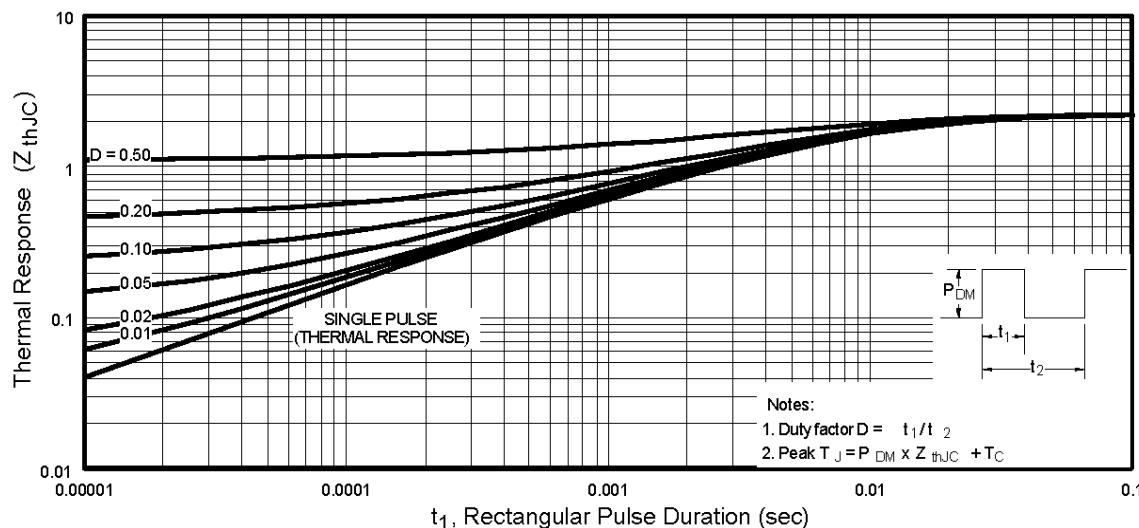

Fig 11. Maximum Effective Transient Thermal Impedance, Junction-to-Case
① Repetitive rating; pulse width limited by max. junction temperature. (See fig. 11)
④ Pulse width $\leq 300\mu\text{s}$; duty cycle $\leq 2\%$.
② Starting $T_J = 25^\circ\text{C}$, $L = 3.2\text{mH}$
⑤ This is applied for I-PAK, L_S of D-PAK is measured between lead and center of die contact